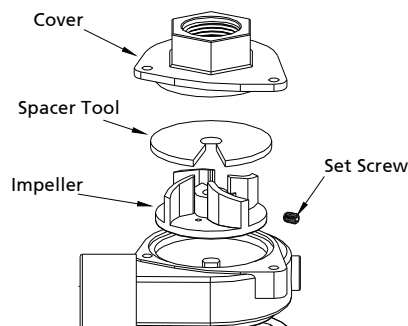

Figure 9
10. Place the spacer tool (can be created using a piece of light cardboard about 0.020" thick) over the impeller as shown (See Figure 9)
11. Position the cover (Ref.No.6) in place on the housing (Ref.No.2), and while pressing down on the cover, tighten the set screw (Ref.No.4); then install the plug that was removed in Step 2 during disassembly (See Figure 9).